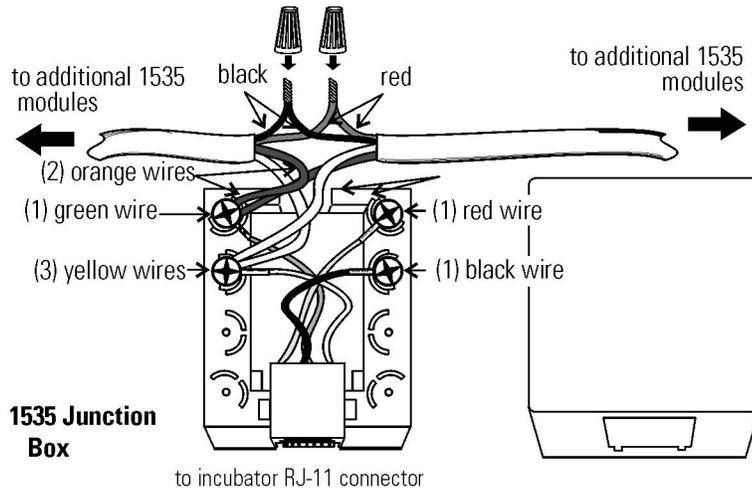
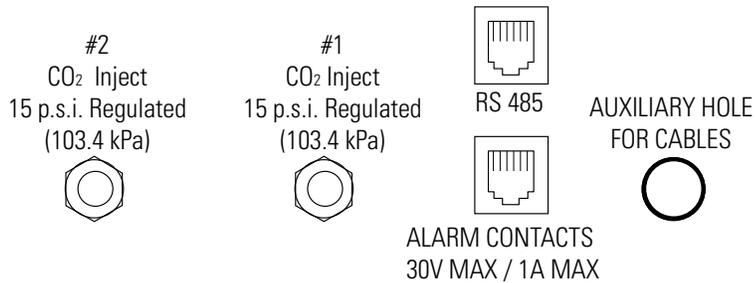
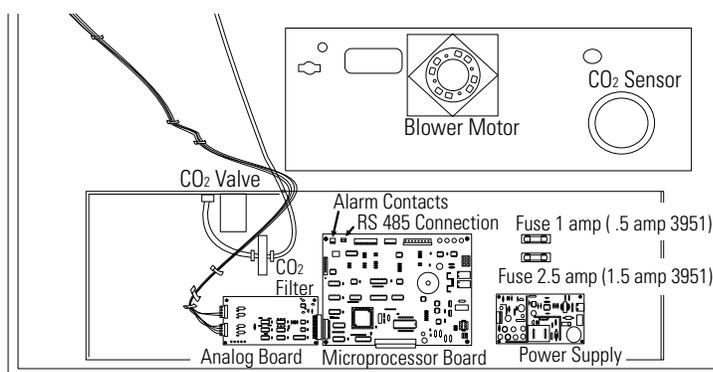

Figure 6-2. RS485 Interface Wiring
Figure 6-3. RS485 Connector Location on Unit Back
Figure 6-5. Route Wires
A set of relay contacts is provided to monitor alarms through a RJ-11 telephone style connector on the back of the unit. Refer to Figure 6-3 for the location of the alarm connector. The 12-foot telephone cord (P/N 190388) and RJ11-to-screw terminal conversion box (190392) are available through the Technical Services Department.
All incubator models can be purchased with the RS485 communications option. This option allows the incubator to be directly connected to a Model 1535 alarm system without the use of a communications module. A junction box is provided with each RS485 option. Refer to Figure 6-2 for wiring details. Figure 6-3 shows the location of the RS485 connector on the back of the incubator.
- Route the wires through the auxiliary hole located on the back of the unit. See Figure 6-3 and Figure 6-5.